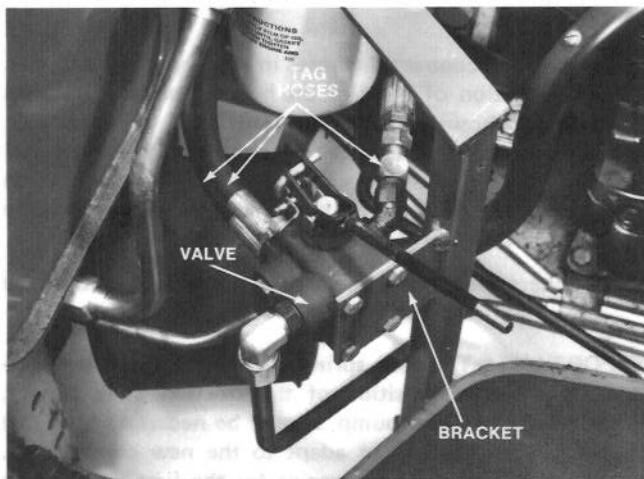

Figure 32
4. Remove the valve from the bracket (Fig. 32).